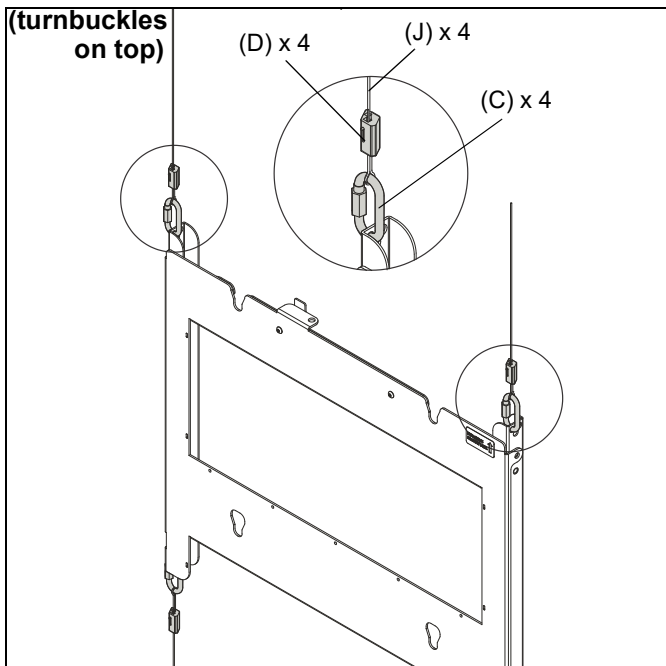

Figure 6
2. Use four connecting links (C) and cable locks (D) to secure cables (J) to two outer frames (A). (See Figure 6)